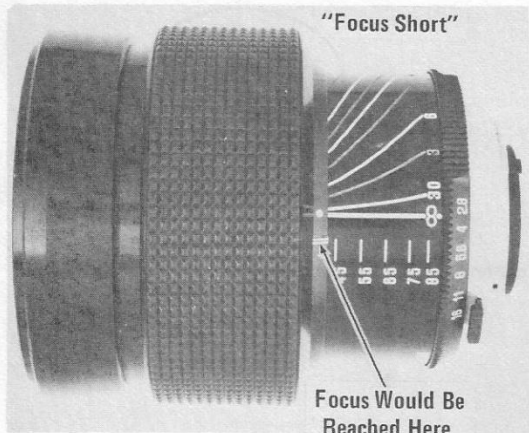

FIG. 7-1
**FOCUS SHORT** — When rotating control ring to focus at infinity, focus index dot stops at the infinity stop before infinity focus is reached. That is, infinity focus of the lens is beyond the infinity mark of the index ring. Fig. 7-1.